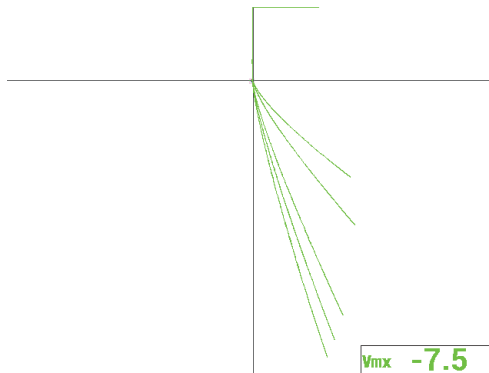

Figure 5-77 Displaying the effect of conductivity and magnetic permeability
11. Press the FULL NEXT key (➡) to toggle to full-screen mode, then successively place the probe on each sample to display the effect of conductivity and magnetic permeability on the impedance plane (see Figure 5-77 on page 183).